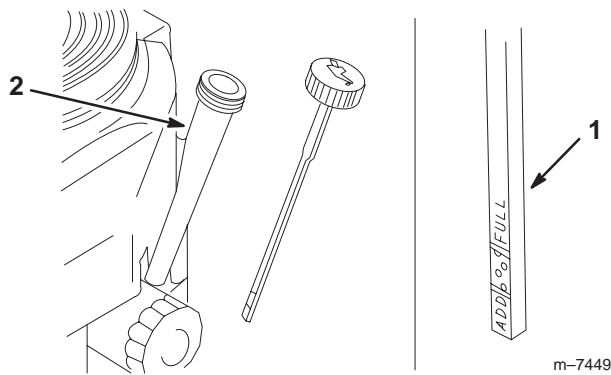

Figure 33
- Clean around the oil dipstick (Fig. 33) so that dirt cannot fall into the filler hole and damage the engine.
5. Unscrew the oil dipstick and wipe the end clean (Fig. 33).
6. Slide the oil dipstick fully into the filler tube, **but do not thread onto tube** (Fig. 33).
9. Slowly pour approximately 80% of the specified oil (refer to Service Interval/Specification, page 28) into the filler cap (Fig. 33).